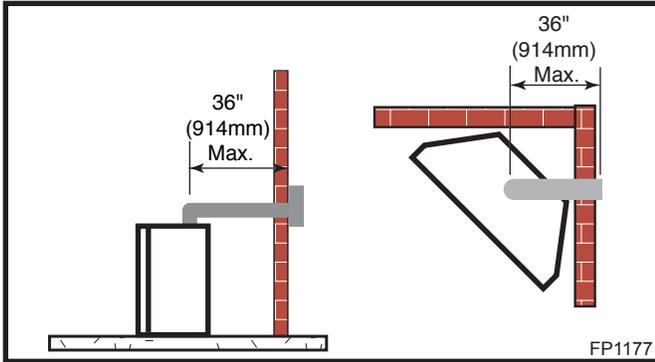

Fig. 28 Maximum horizontal run with no rise.
- If a 90° elbow is fitted directly on top of the fireplace flange the maximum horizontal vent run before the termination or a vertical rise is 36" (914 mm). (Fig. 28)